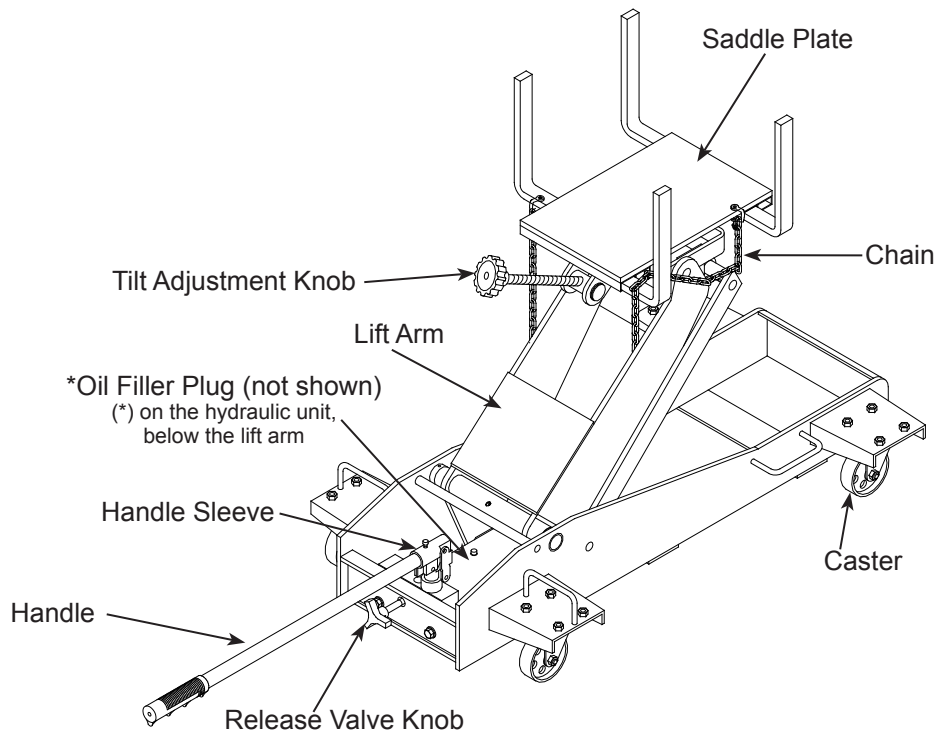

Figure 1- Typical Transmission Jack Components
3. To familiarize yourself with basic operation, locate and turn the release valve knob (see Fig 1):